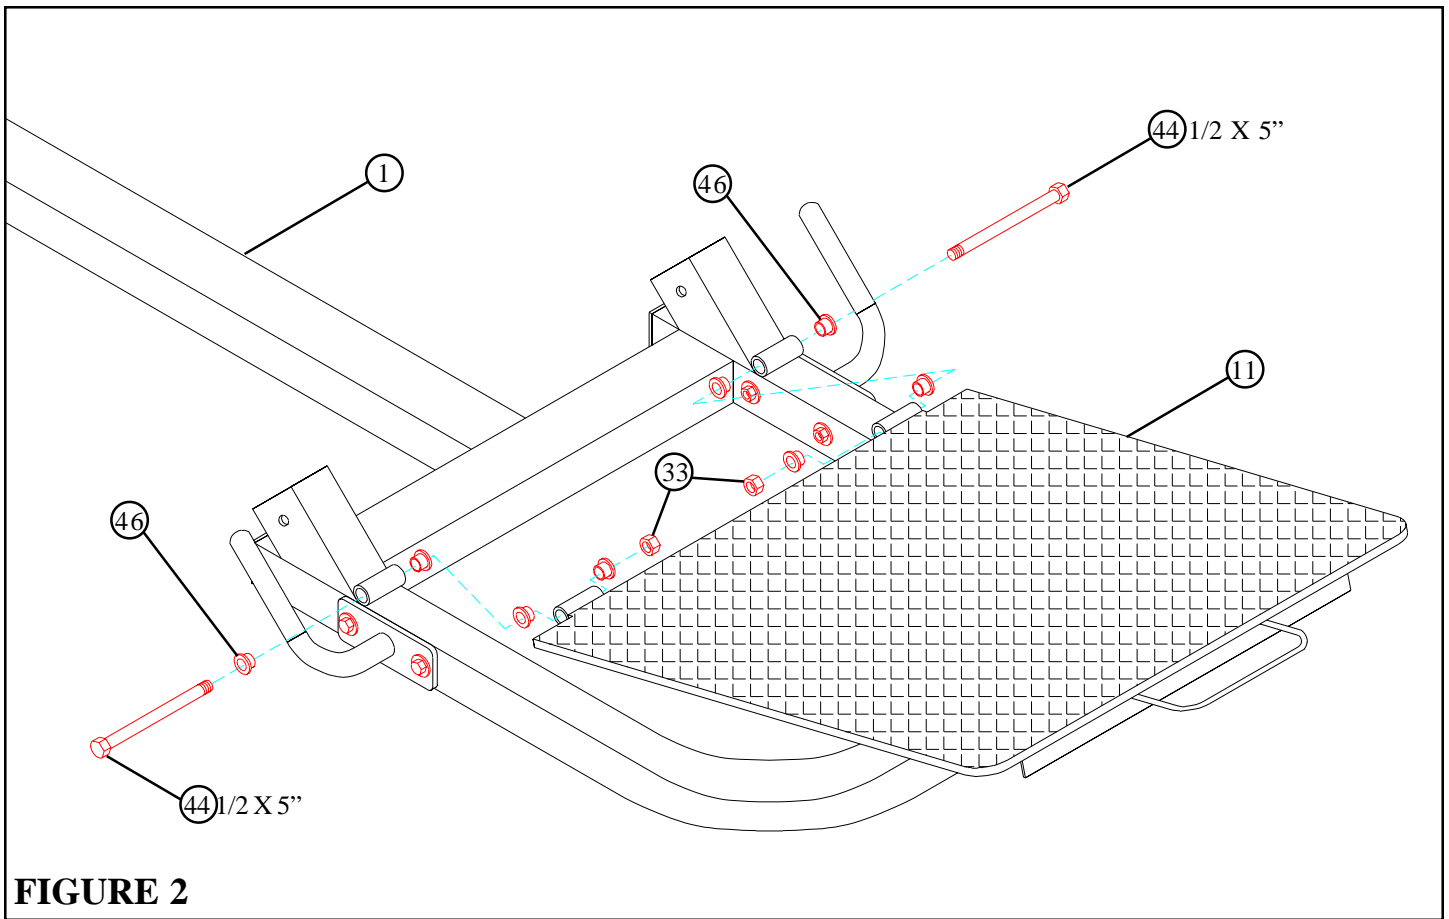

FIGURE 2
- Insert four 1/2" FLANGE BEARINGS (46) into the BUSHINGS on the BASE (1), and four 1/2" FLANGE BEARINGS (46) into the BUSHINGS on the PLATFORM (11) as shown in FIGURE 2.
- Assemble the PLATFORM (11) between the BUSHINGS on the BASE (1) as shown in FIGURE 2 using two 1/2 X 5" BOLTS (44) and two 1/2" LOCK NUTS (33). **(TIGHTEN THE CONNECTION ENOUGH TO REMOVE THE PLAY, YET ALLOWING THE PLATFORM TO ROTATE FREELY)**